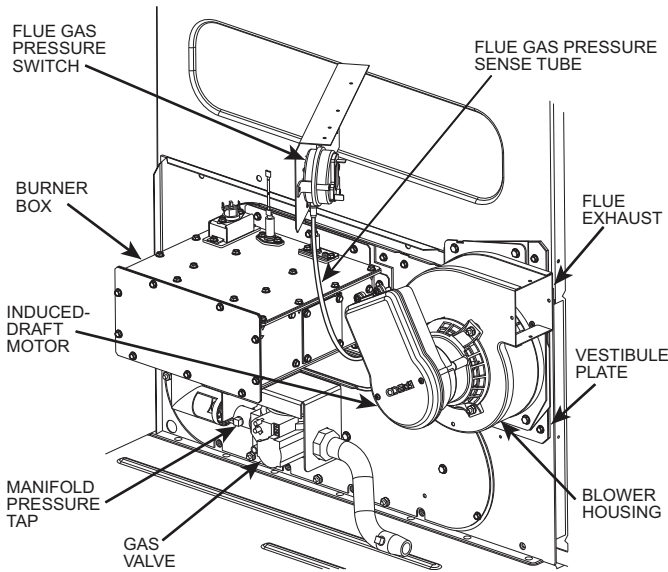
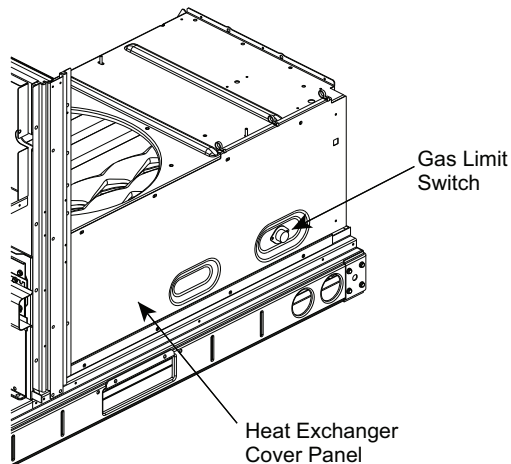

Fig. 45 — Burner Section Details
Fig. 46 — Gas Limit Switch Location
The heat exchanger system consists of a gas valve feeding multiple in-shot burners off a manifold. The burners fire into matching primary tubes. The primary tubes discharge into combustion plenum where gas flow converges into secondary tubes. The secondary tubes exit into the induced draft fan wheel inlet. The induced fan wheel discharges into a flue passage and flue gases exit out a flue hood on the side of the unit. The induced draft fan motor includes a flue gas pressure switch circuit that confirms adequate wheel speed through the Integrated Gas Control (IGC) board. Safety switches include a Rollout Switch (at the top of the burner compartment; see Fig. 45) and a limit switch (mounted through the heat exchanger cover panel, over the tubes). (See Fig. 46.)
See Fig. 45, 47, 49 and 50.
10. Remove the pressure switch hose from the connection on the flue cover assembly (see Fig. 45).